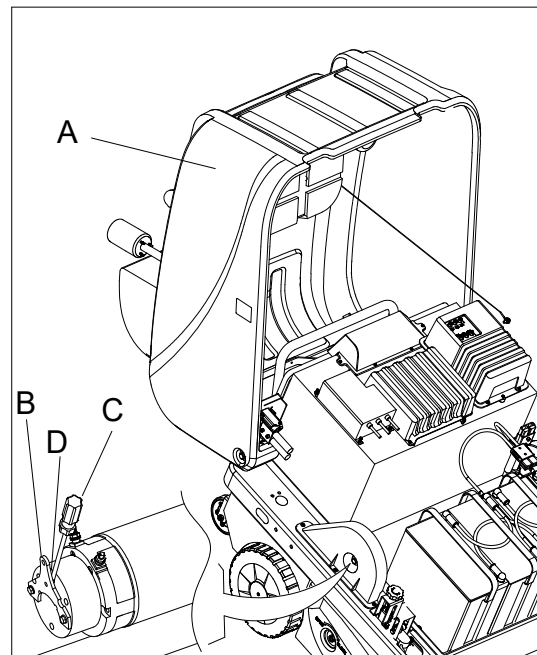

Figure 17
1. Open the cover (A, Figure 17).
2. Pull the drive motor handle (B, Figure 17) outwards.
3. Insert the screwdriver (C, Figure 17) to the slot (D, Figure 17). Turn back the cover, then the machine can be pushed or towed.
4. When the machine is moved to the destination, take out the screwdriver (C, Figure 17), then the machine can work normally.